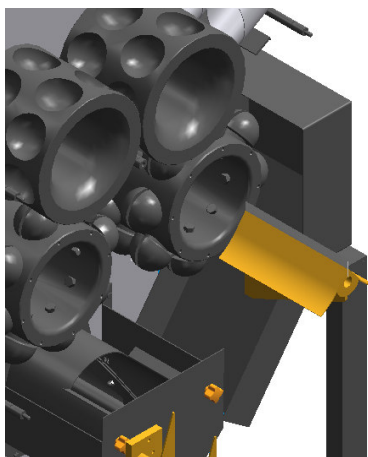

Figure 9
**C) PRESSING UNIT AND BLADE AXLES ( Fig. 9 and 10 ) :** The pressing unit-carrier axles of the retainers should be changed every two years. Periodically (every 6 months) check the state of the retainer lips Ref. 170.0003.001. Check the blade sharpness every 30 days Ref. 200.0092.002.